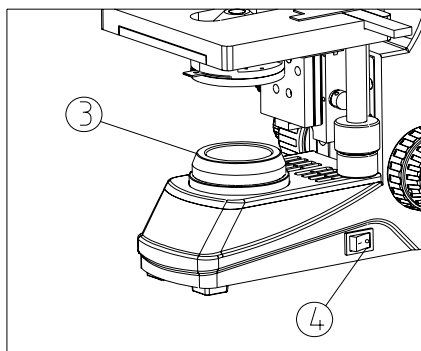

Fig. 2
4. When working, the surface of condenser will be very hot. Make sure there is enough room for the heat dissipating around the condenser ③ (see Fig. 2).
6. For safety, make sure the power switch ④ is at "0" (off) and power it off before replacing the bulb or fuse, and wait until the lamp cools down (see Fig. 2).